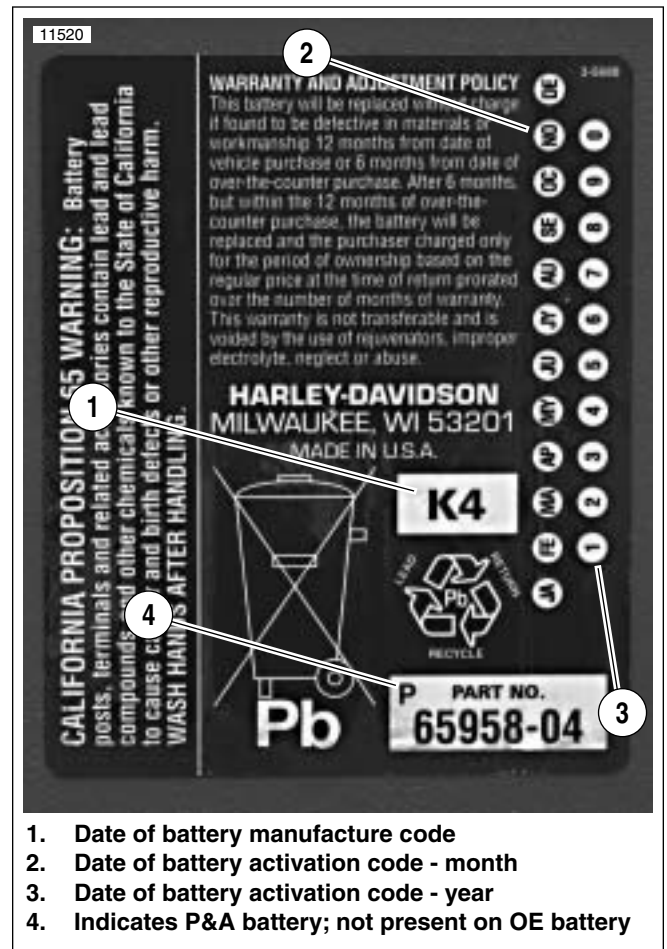

Figure 3. Battery Warranty/Date Code Sticker
See Figure 3. The date of manufacture code (1) contains a single letter for the month and a single digit for the year.